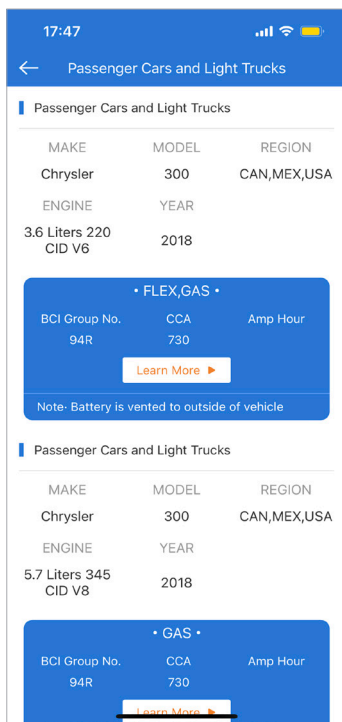

Figure 5.8.3
2) Details of your battery will be shown as below (See Figure 5.8.3).